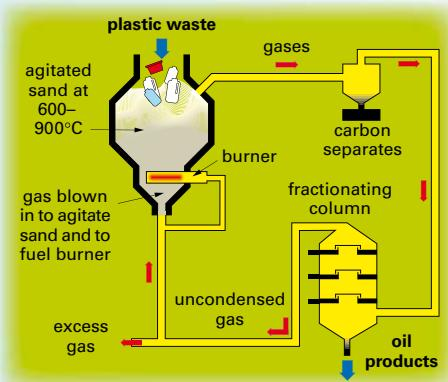

Fig 32 Recycling plastic waste into oil
- Because plastics burn, they can be used as fuel. So far this has proved difficult because of the toxic gases produced and the sticky nature of many plastics as they burn. However, technologists have found a way of converting waste plastics into oil. In the system shown in Fig 32, some of the gases formed as the plastic decomposes are condensed to give valuable oil products. The rest of the gases are used to heat the plastic waste. Such a system can handle 8000 tonnes of plastic waste in a year. It is an expensive process but a useful way of saving our non-renewable oil reserves.